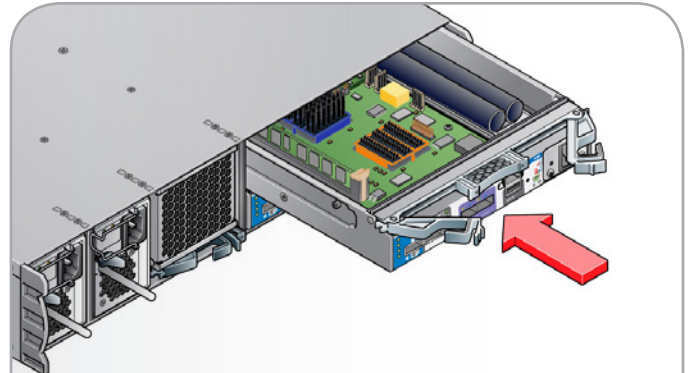

Fig. 37 - Inserting the RAID Controller Module
2. With the latches in the open position (see Fig. 37), slide the controller module into the enclosure until the latches engage.